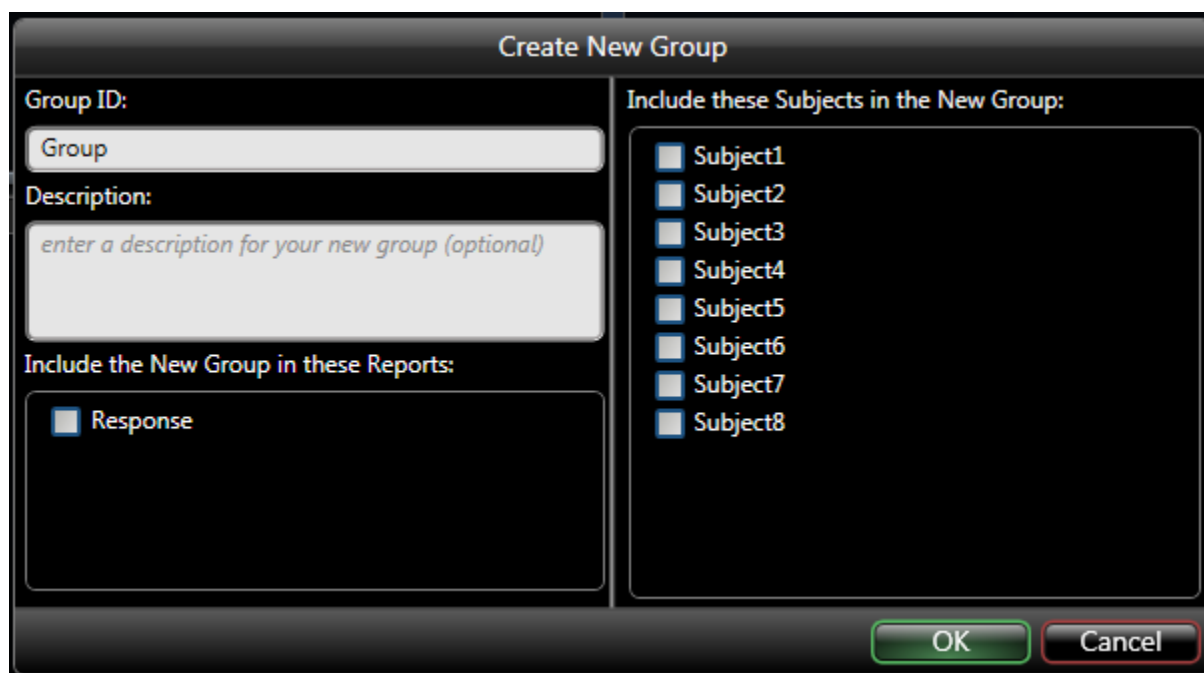

Figure 55. This shows the dialog box presented when you click the New Group button.
1. Click the **New Group** button located under *New Items* at the top of the page. A dialog box like the one shown in Figure 55 is presented.